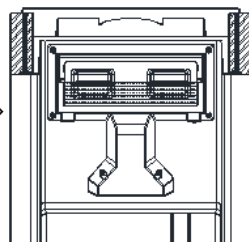

Fig. 3
5. Reinstall the transparent window to prevent water leakage. (Fig. 3)